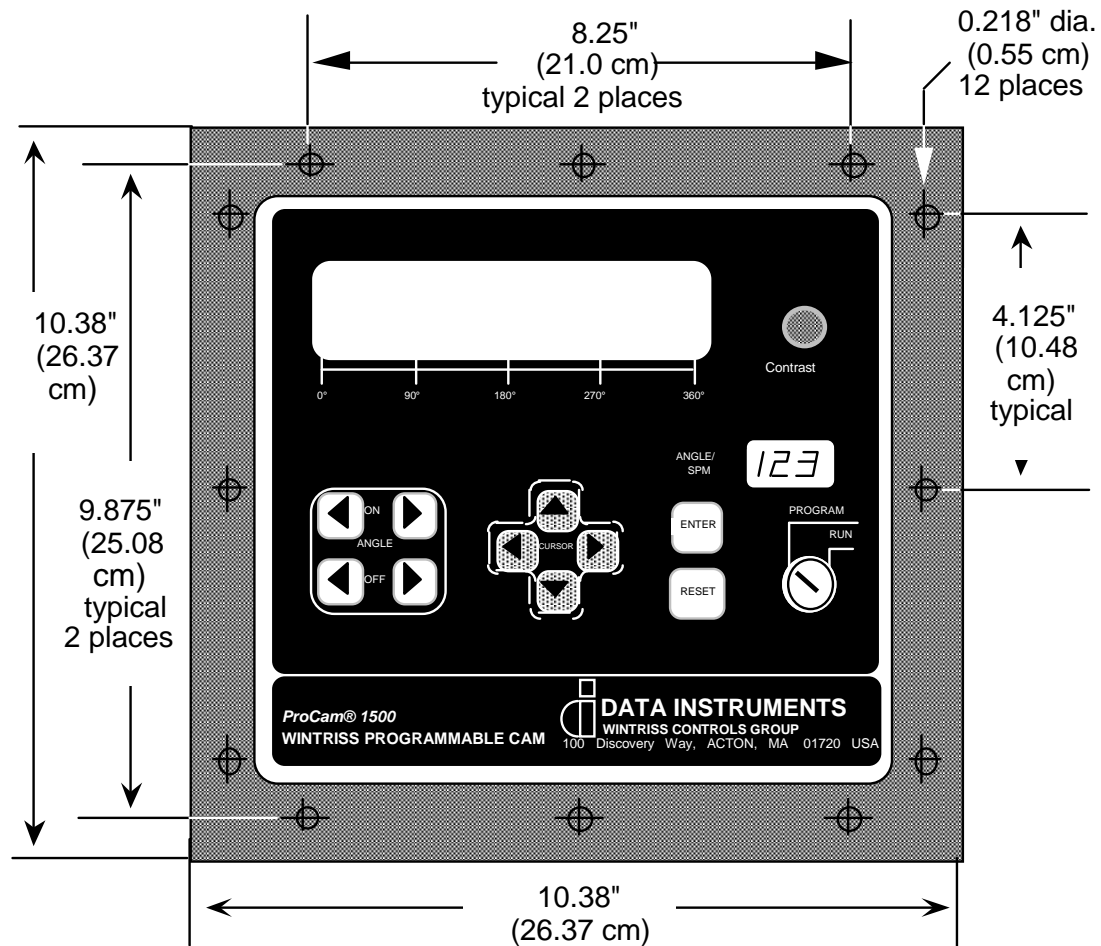

Figure 2-2. ProCam 1500 Panel Mount mounting dimensions
2. Cut out a hole in your panel enclosure, and drill and tap twelve holes for #10-32 screws. Refer to the drawings in Figures 2-2 and 2-3A for mounting dimensions.
2. Drill four holes for mounting, and tap (if necessary). Shockmount studs are 1/4-20. Mount the enclosure using the enclosed shock mounts and mounting flanges. Use a No. 7 drill and 1/4-20 tap. Refer to the drawings in Figures 2-2 and 2-3B for dimensions.